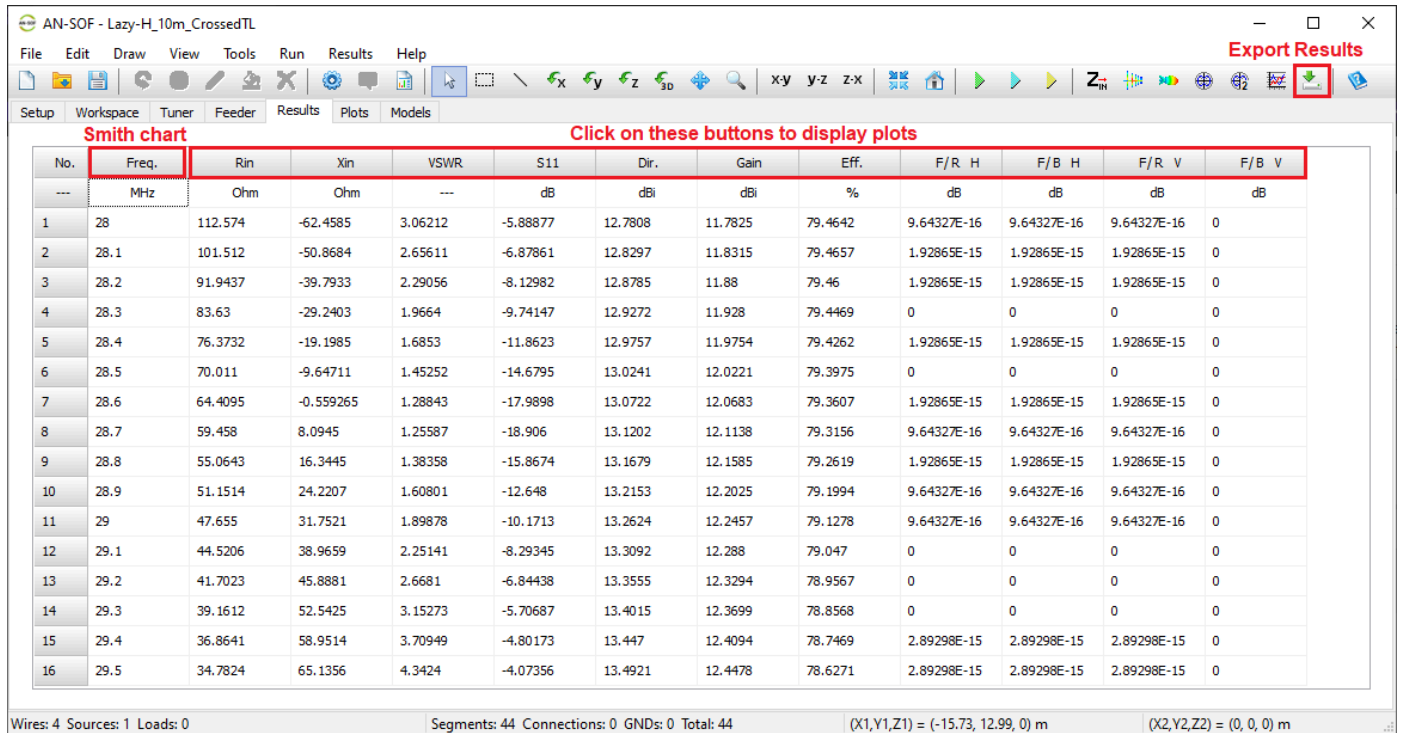

Fig. 1: Results tab in the main window, with the Export Results button highlighted in the toolbar.
The **Results** tab in the AN-SOF main window (see Fig. 1) displays a table with the primary results for a transmitting antenna, including:
This table is automatically populated only when the wire structure is excited by a discrete source. It will not be filled if the excitation is an incident wave. The tabulated results persist until a new calculation is performed, allowing you to reference them at any time, even when making changes to the project. To export these results to a **CSV** file, click the **Export Results** button on the toolbar (see Fig. 1).
- Click the header buttons as indicated in Fig. 1 to plot these results against frequency.